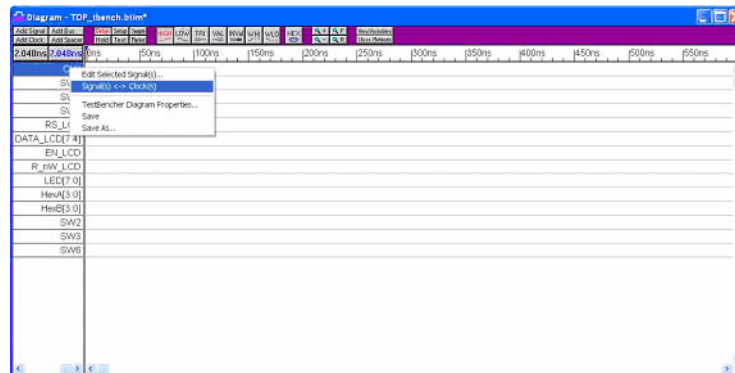

Figure 7-15. Create Clock Signal in Waveformer Lite
1. Right-click the Clock signal to select it. Select **Signal(s) <-> Clock(s)** to create the clock signal (Figure 7-15).